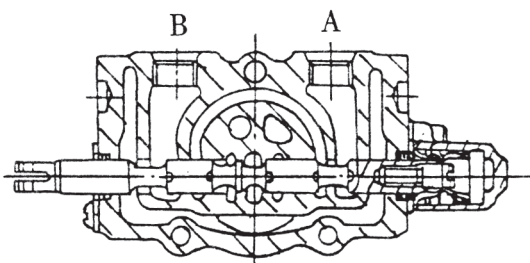

Fig.7.4 Pull slide valve
(3) Drawing-out of plunger (See Fig.7.4)